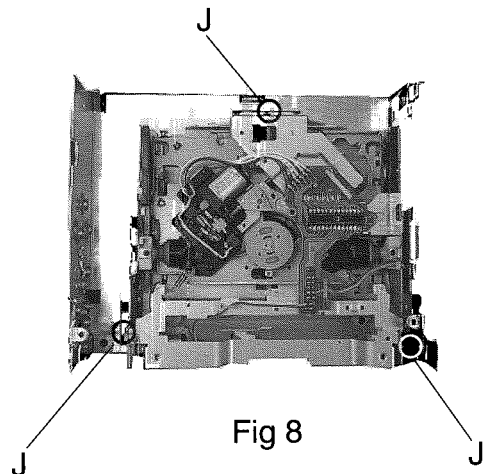

Fig 8
■ **CD mechanism assembly (See fig8)**